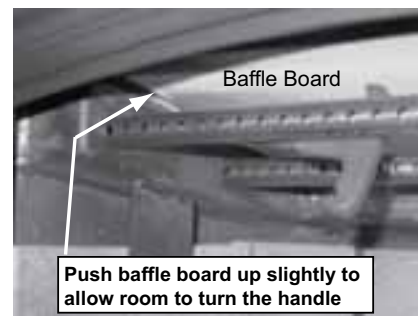

Figure 25A
3. With a 3/16" Allen wrench, remove the front manifold tube retainer bolts on the air channel under the end of the front tube. **See Figure 25A.** **NOTE:** Soak the bolts with penetrating oil for at least 15 minutes before trying to remove it.